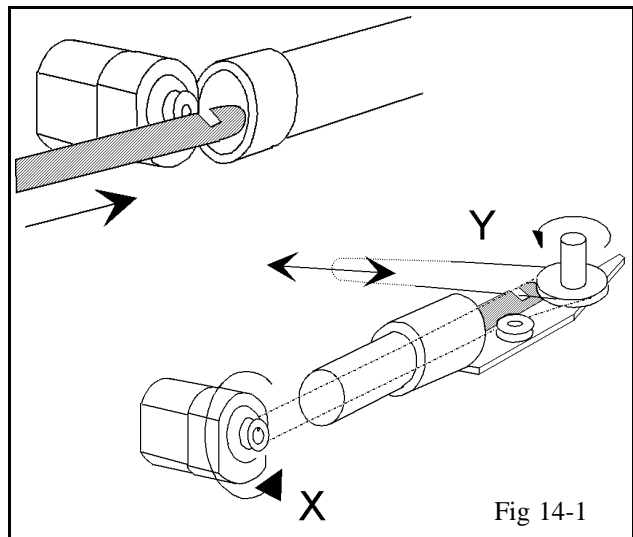

Fig 14-1
5. Re-assemble the Hoverfly, and test the tail before flying. Especially, ensure that the direction is correct. (See Fig 14-1)
2. Pass the special Belt Insertion Tool into the motor end of the boom, in front of the motor pulley, hooked-end first and uppermost (Fig 14-1). When it comes out of the other end, position the hook just beyond the small pulley, as illustrated.
**Check that the direction of rotation is correct before flying.** See Fig 14-1; turning the motor pulley in direction X should cause the tail pulley to rotate as Y.